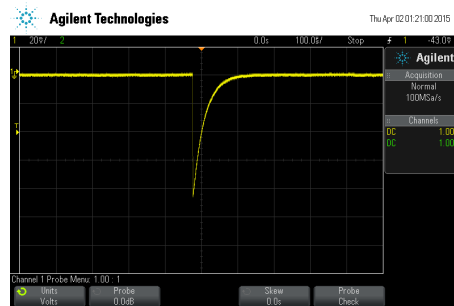

Figure 1: Typical signal from a 9” PMT working at 1200V HV nominal level
PMT signal is a negative pulse of few tenths of millivolts height and microseconds wide, an example is shown in figure 1. The rate of the pulses depends of many factors, for this experience we can assume $100Hz$.
As you can see in figure 1 the signal has a very fast transition from $0V$ to V_{peak} , the amplifier must be capable to "follows" this variation so a fast op-amp must be used. Select an op-amp with adequate slew rate is mandatory, see ref. 4 for an explanation about this op-amp parameter.